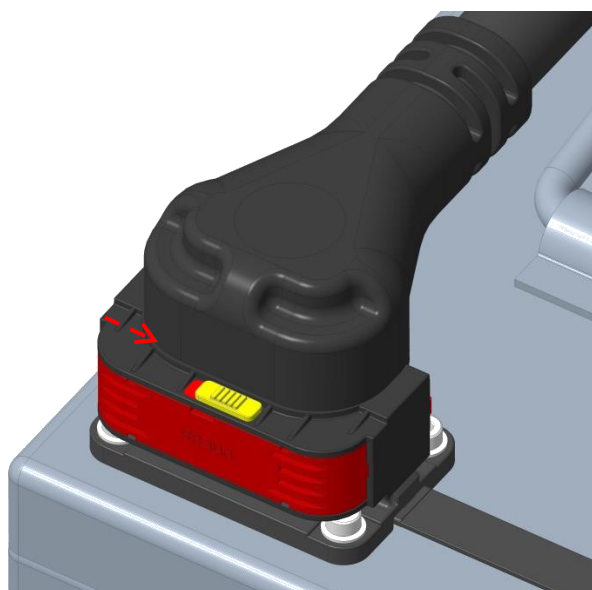

Figure 12
- 5.2.1.5 Engage the CPA by moving it towards the desired position (Fig. 12)